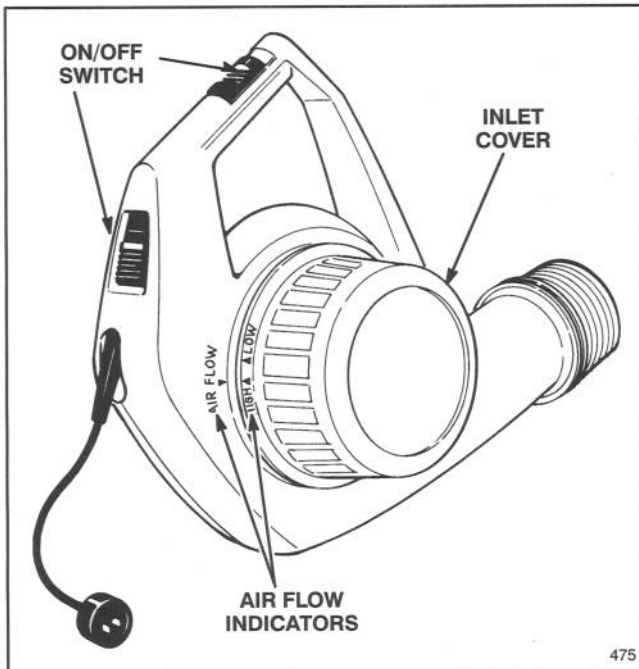

Figure 19
Your blower features a variable inlet cover (Fig. 19) which allows you to adjust the volume of airflow by rotating the inlet adjustment cover. Low and intermediate flow will allow you to easily direct debris from open doorways, screens, etc. Experience with the unit will indicate the amount of airflow necessary for each application.
2. Slide on/off switch to the "on" position (Fig. 19).